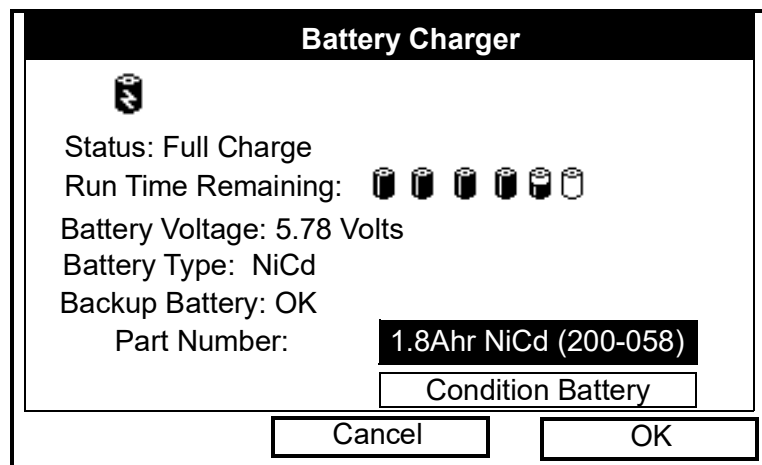

Figure 105: The Battery Charger Window
1. From the Meter menu, scroll to the Battery entry and press [ENTER]. The Battery Charger window opens, as shown in Figure 105 below.